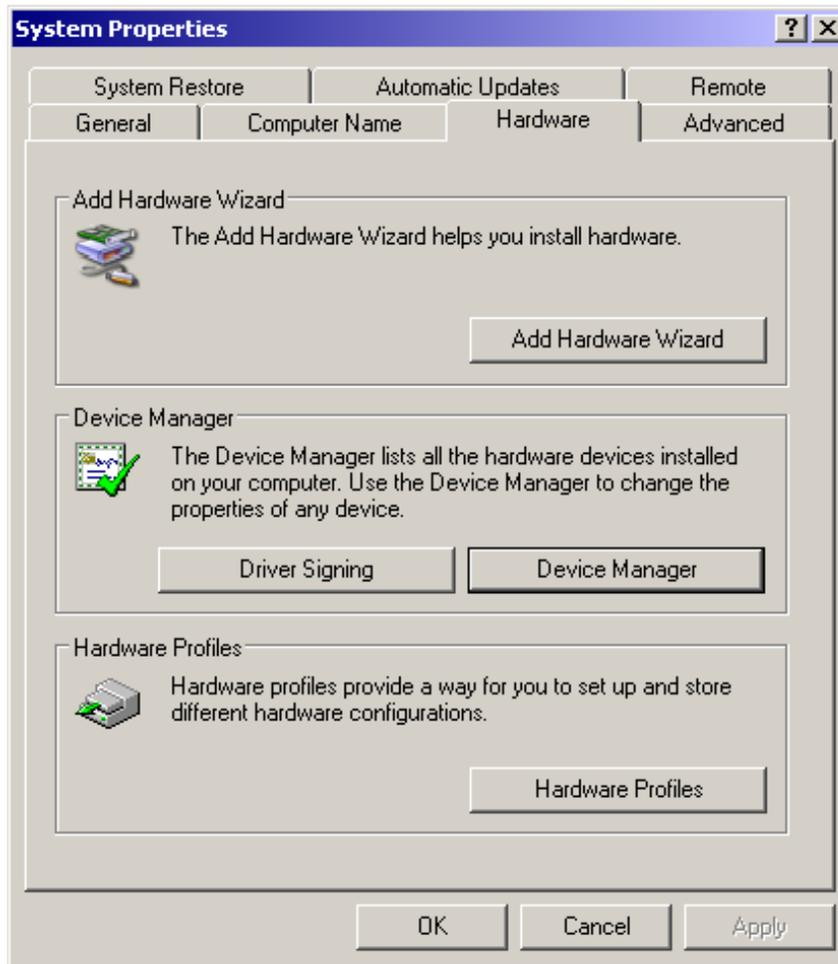

FIGURE 238. System Properties
4. Select the Add Hardware Wizard button as shown in Figure 238.